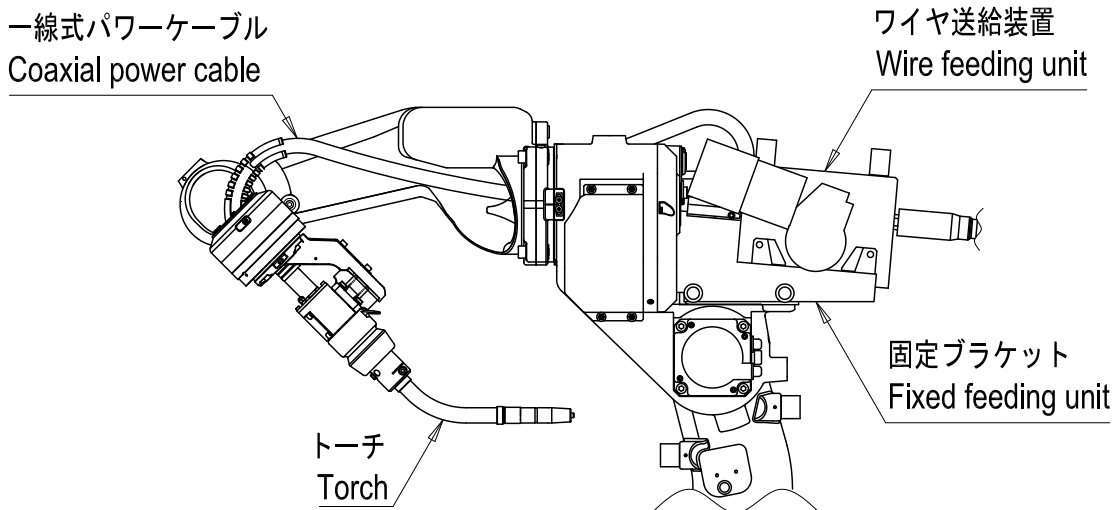

Fig.4.17 Adjustment of the coaxial power cable (For B6 type manipulator)
- (1) Mount a torch, wire feeding unit (fixing bracket), and coaxial power cable.
- (2) Operate the 5th axis to the maximum (soft limit) toward the manipulator's inner side as shown in Fig.4.17.
- (3) Drive 6th axis to the "+" side
- (4) Drive 6th axis to angle of -90°
- (5) Check that the coaxial power cable goes into the arm without being caught during operation (2) to(4).
- (6) If the coaxial power cable is caught and does not go into the arm, adjust the wire feeding unit position back and forward..